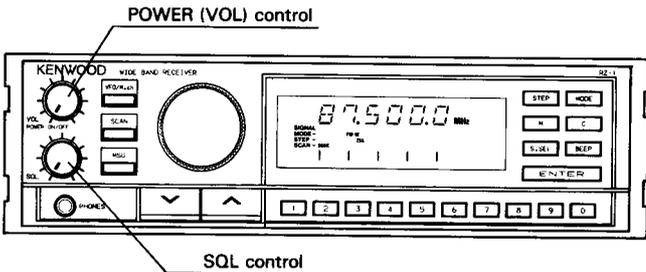

Fig. 1
2. Turn ON the DC power supply and then turn the receiver's power switch ON. After a few second the display panel will indicate as shown in Fig. 1 and some control's and key's lights will turn on.
If the display is not as shown Fig. 1 reset the microprocessor using the procedure in Section 4-3-2 Page 18 ~ 19.